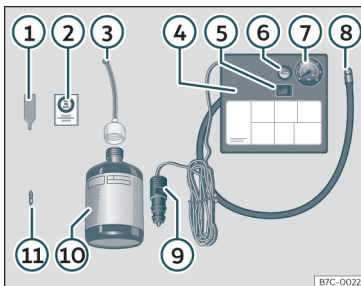

Fig. 57 Standard display: contents of the anti-puncture kit.
- Unscrew the tyre valve cap and insert. Use the >>> Fig. 57 ① tool to remove the insert. Place it on a clean surface.
- Shake the tyre sealant bottle vigorously >>> Fig. 57 ⑩.
- Screw the inflator tube >>> Fig. 57 ③ into the sealant bottle. The bottle's seal will break automatically.
- Remove the lid from the filling tube >>> Fig. 57 ③ and screw the open end of the tube into the tyre valve.
- Place the insert back into the tyre valve using the tool >>> Fig. 57 ①.
- Screw the compressor tyre inflator tube >>> Fig. 57 ⑧ into the tyre valve.
- Check that the air bleed screw is closed >>> Fig. 57 ⑥.
- Insert the connector >>> Fig. 57 ⑤ into the vehicle's 12-volt socket >>> page 151.
- Turn the air compressor on with the ON/OFF switch >>> Fig. 57 ⑤.
- Attach the sticker >>> Fig. 57 ⑦ to the instrument cluster, within the driver's visual field.